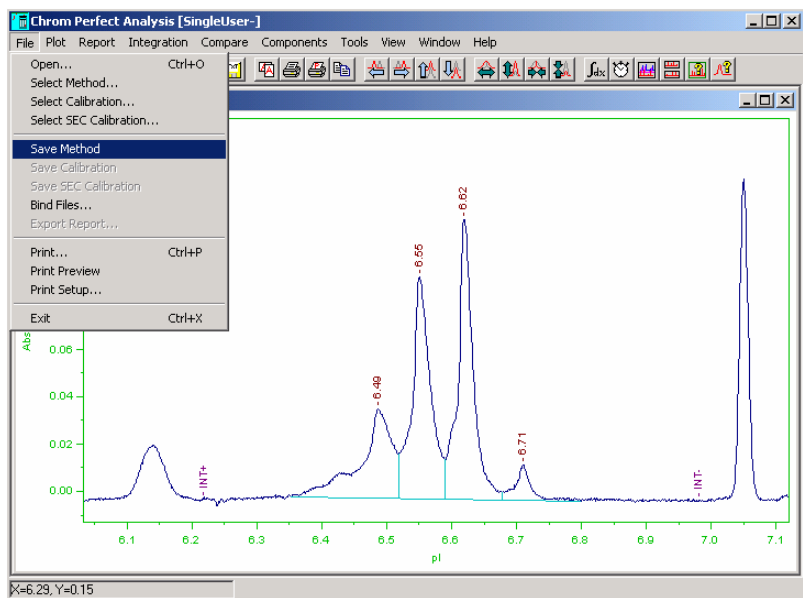
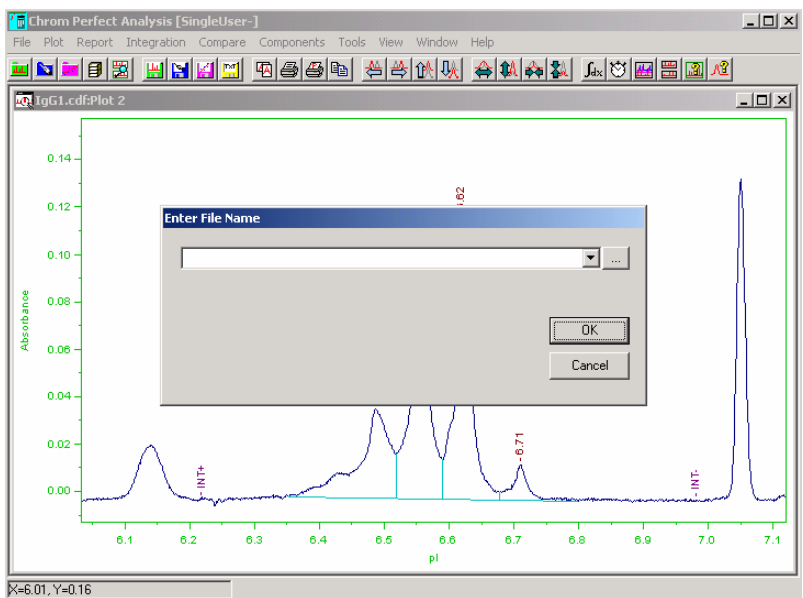

Figure A-21: File > Save Method Menu
Figure A-22: Enter File Name
1. Click **File > Save Method** to open the file name inquiry window as shown in Figure A-21 and Figure A-22.